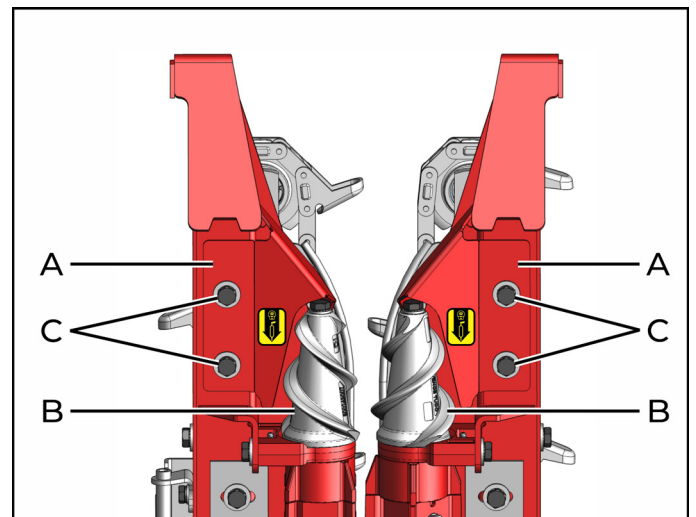

fig. 43
The position of the front protection shields (A) (*fig. 43*) of the stalk rollers (B) should be adjusted correctly in order to avoid the entry of any material that can get caught in the rollers. The adjustment should be made by moving the protection shields (A) and loosening the screws (C) so that they are as close as possible to the rollers, leaving minimum clearance.